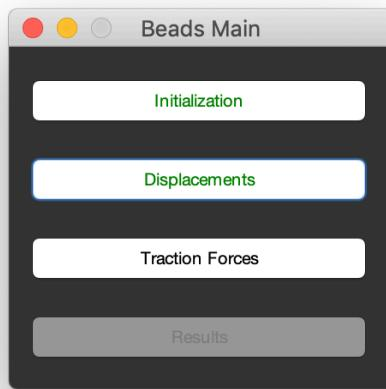
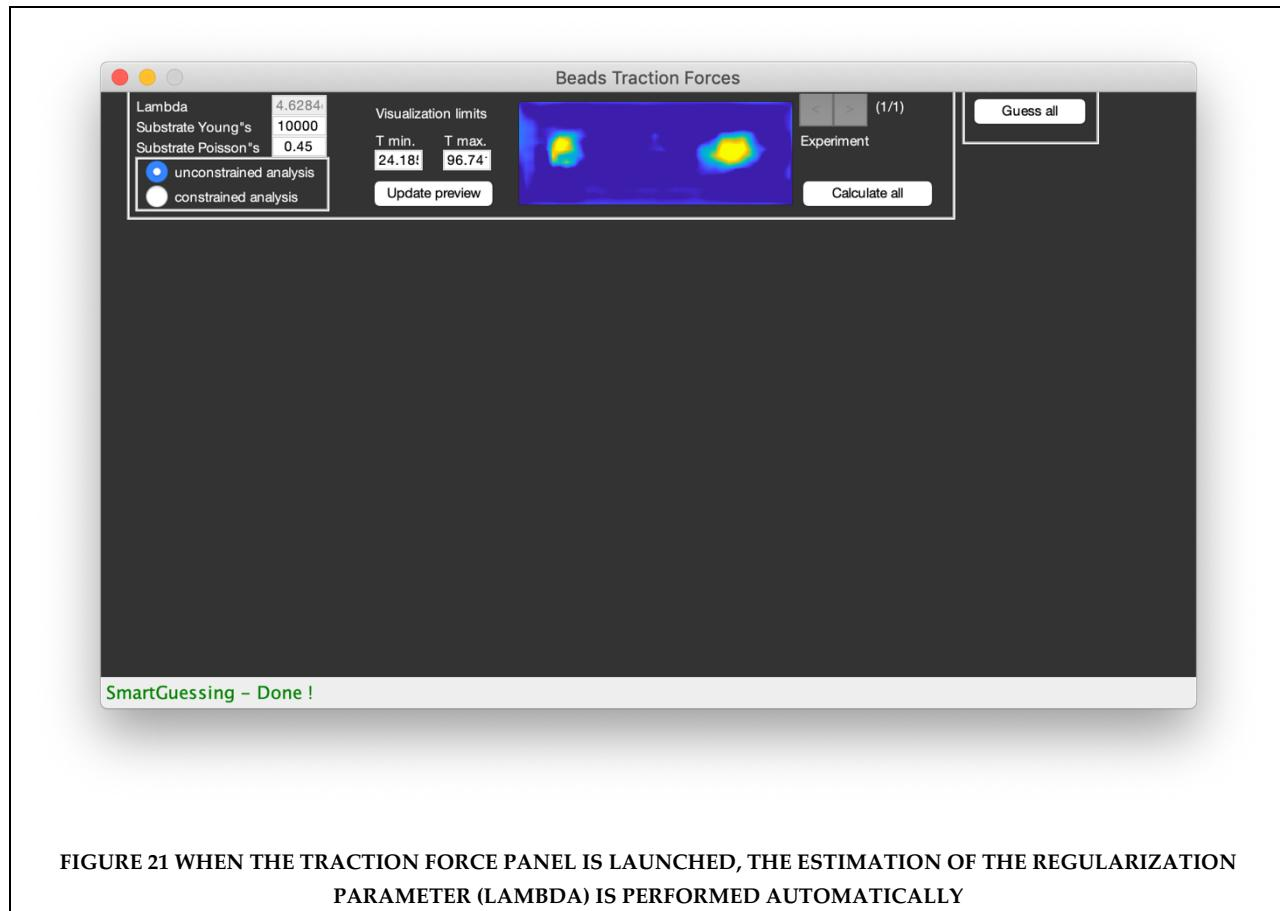

FIGURE 20 AFTER THE DISPLACEMENT STEP IS COMPLETED, THE TRACTION FORCE STEP IS ENABLED
FIGURE 21 WHEN THE TRACTION FORCE PANEL IS LAUNCHED, THE ESTIMATION OF THE REGULARIZATION PARAMETER (LAMBDA) IS PERFORMED AUTOMATICALLY
1. In the main panel (Figure 20), launch the initialization panel by clicking on the *Initialization* button (Figure 21).